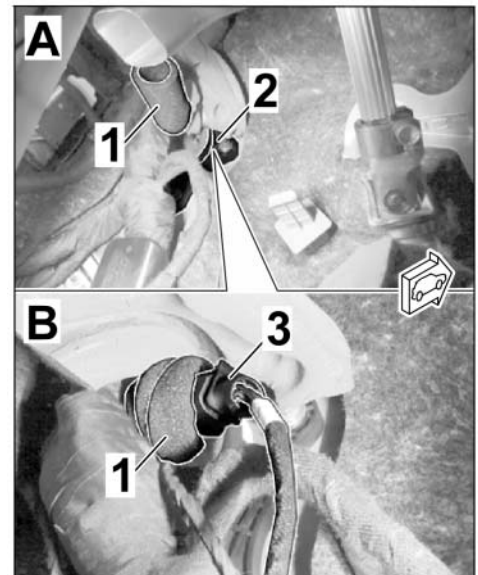

Figure 15
- 3.1.1 Expose the connection point (preparation = socket connector, 6-pin) in the passenger compartment of the vehicle, area of bulkhead grommet, A-pillar left. ⇒ *Figure 15 -A-*
- 3.1.3 Establish a connection between the plug connection preparation and the wire harness for the exhaust flaps (6-pin). ⇒ *Figure 15 -B-*